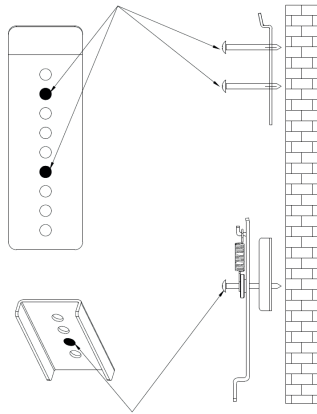

Fig. 2
2. **Upper mounting bracket** | Mount the wall bracket C with the M5x40 screws according to fig. 2.